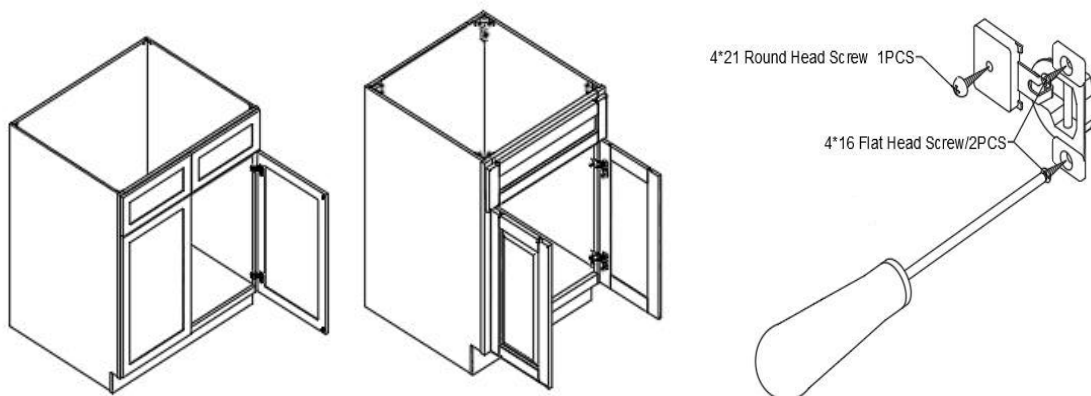

Figure5
5. **Attach hinges and door panels to the face frame with 2PCS 4*14 flat head screws and 1PC 4*21 round head screw(Figure5).**